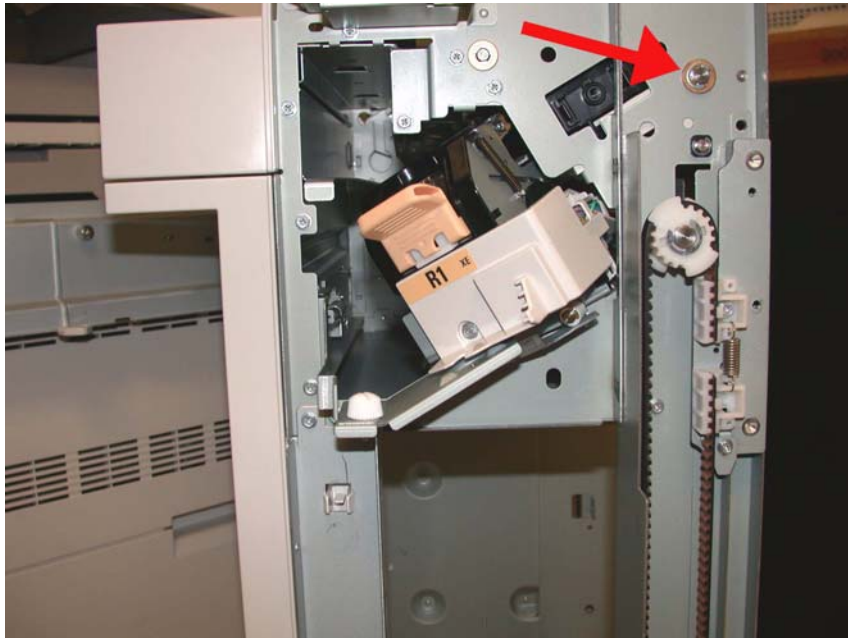

Figure 20 Installing the brass bearing and E-ring
- c. Install the brass bearing and E-ring onto the front of the Eject Roll Shaft (Figure 20).